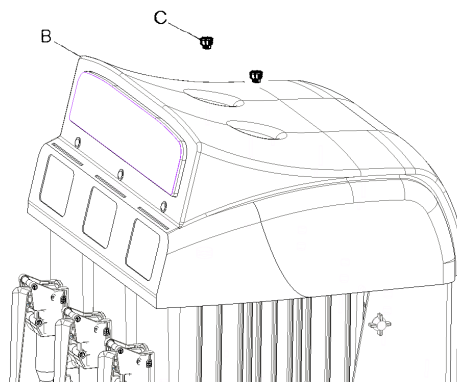

Fig. 17
2. Remove the cover B (fig.17).